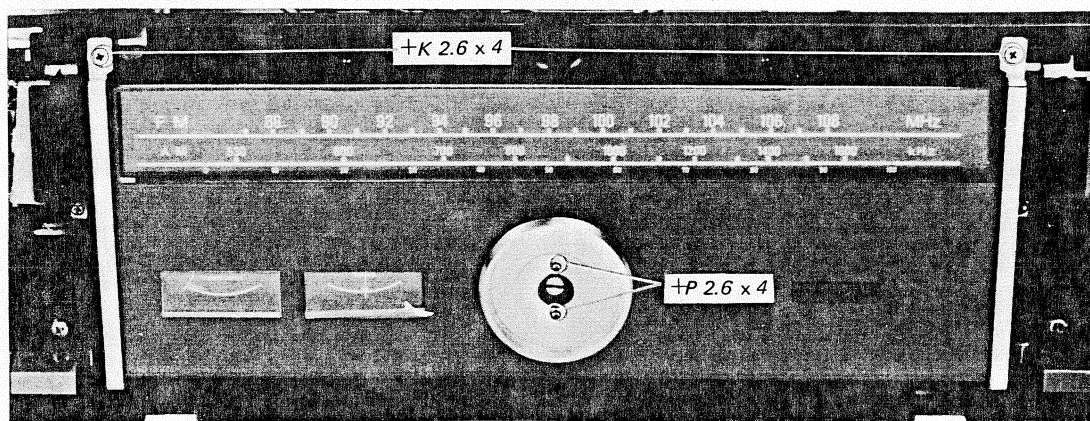

Fig. 2-13 Front glass replacement
2. Pull off the tuning knob, then remove the ornamental ring by loosening the two screws (+P 2.6 X 4). See Fig. 2-13.
3. Remove the two screws (+K 2.6 X 4) securing the front-glass holder to the subchassis. See Fig. 2-13.